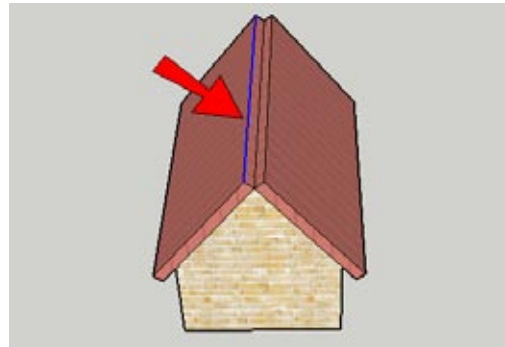

Figure 5-9
10. Select the edge indicated in Figure 5-9. This edge will be moved into place by using another double constraint.